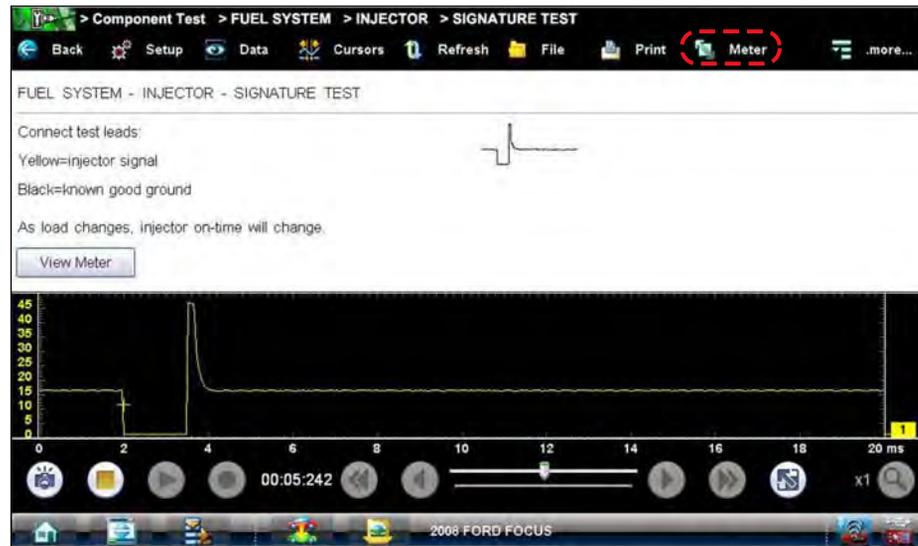

Figure 7-7 Sample view meter window
- **View Meter**—opens a live meter set up to perform the test in the lower portion of the screen (Figure 7-7). Once the meter view is open, the Component Test toolbar at the top of the screen is replaced by the Scope Multimeter toolbar, which allows you to make adjustments to the settings. See Scope Multimeter Toolbar on page 72 for details.
A Meter button, which is only available in the Component Test view meter mode, appears on the upper toolbar (Figure 7-7).
1. With View Meter active (Figure 7-7), tap the **Meter** button on the toolbar once and the meter expands to fill the entire screen.
3. Tap the **Meter** button a third time to close the separate window and return to the standard meter view as shown in Figure 7-7.